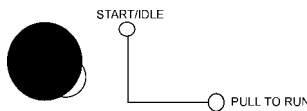

Figure 44. Engine Throttle Lever (low)
7. Check the engine throttle lever is in 'low' position (Figure 44).